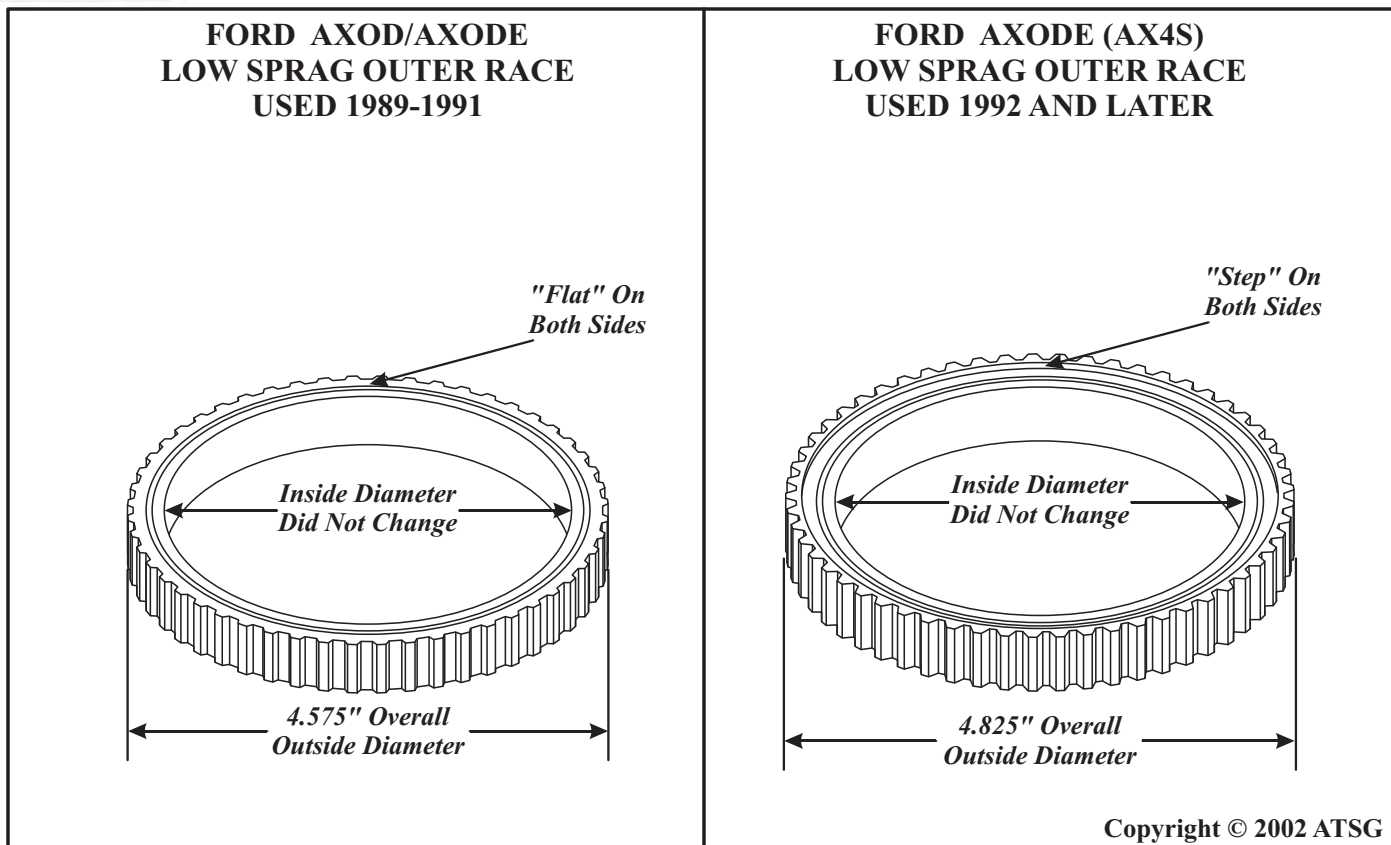

Figure 57
- (1) **LOW SPRAG OUTER RACE** - The outer diameter of the race was increased from 4.575" to 4.825", and the width of the race was increased from .600" to .725", as shown in Figure 57. *The Inside Diameter of the sprag race Did Not Change.*